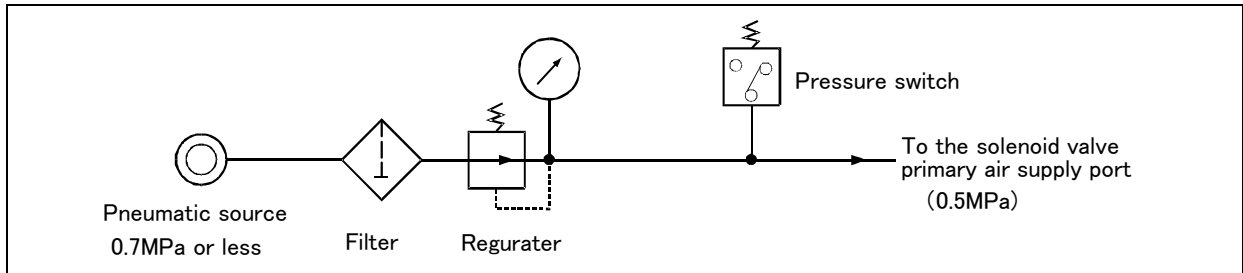

Fig.2-10 : Air supply circuit example for the hand
Refer to Fig. 2-10 for air supply circuit example.
Fig. 2-10 shows an example of pneumatic supply circuitry for the hand.
- (1) Place diodes parallel to the solenoid coil.
- (2) When the factory pneumatic pressure drops, as a result of the hand clamp strength weakening, there can be damage to the work. To prevent it, install a pressure switch to the source of the air as shown in Fig. 2-10 and use the circuit described so that the robot stops when pressure drops. Use a hand with a spring-pressure clamp, or a mechanical lock-type hand, that can be used in cases where the pressure switch becomes damaged.
- (3) The optional hand and solenoid valve are of an oilless type. If they are used, don't use any lubricator.
- (4) If the air supply temperature (primary piping) used for the tool etc. is lower than ambient air temperature, the dew condensation may occur on the the coupling or the hose surface.